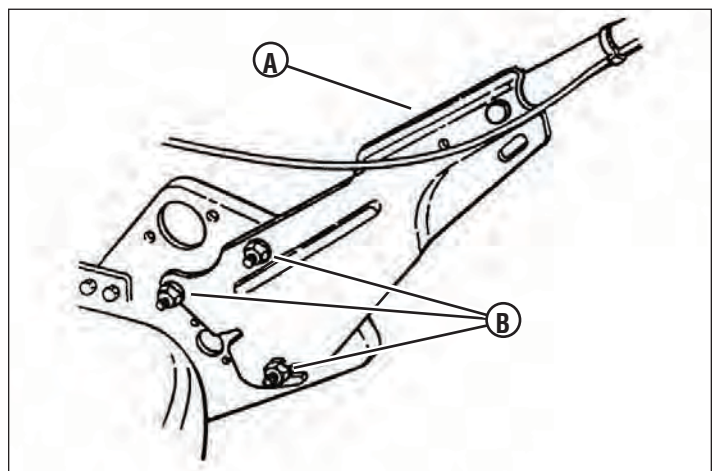
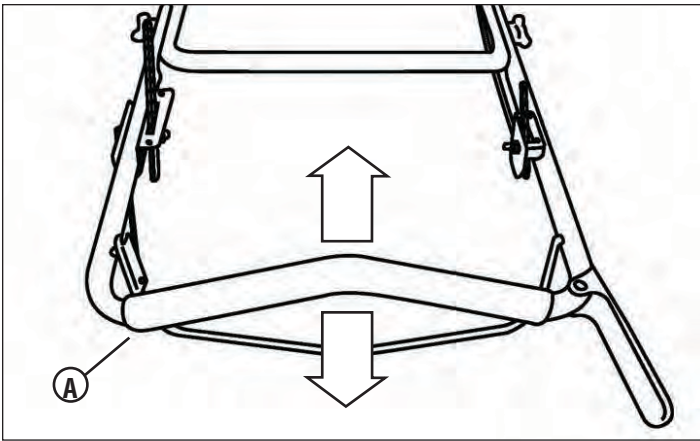

Figure 4
Figure 5
5. To adjust handle height, loosen the bolts (B, Figure 4) on both lower handle brackets (A). Move handle (A, Figure 5) up or down for desired height. Retighten all bolts.